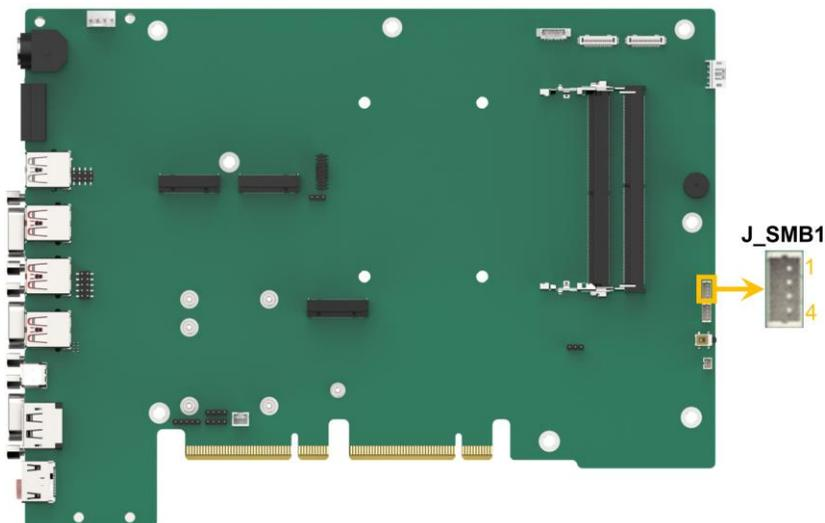

Figure 4-12: SMBus Connector Location
- CN Location:** See **Figure 4-12**